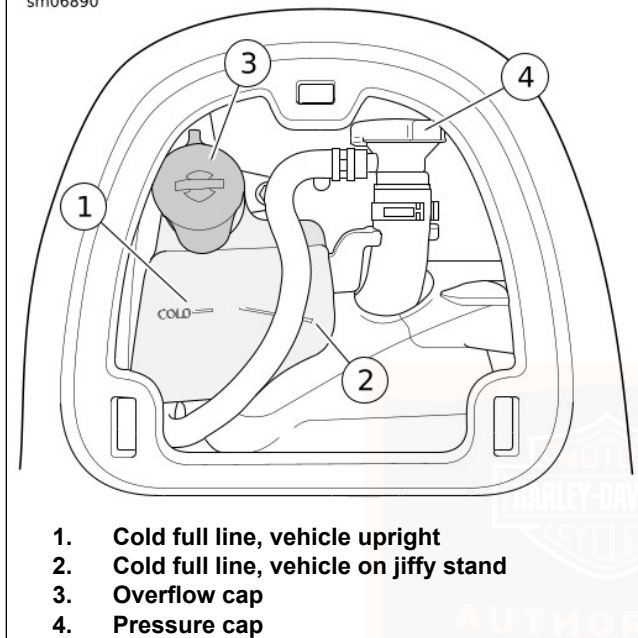

Figure 74. Coolant Level
See Figure 74. The coolant bottle has two lines. Use the angled line (2) when the motorcycle is leaning on the jiffy stand.
2. See Figure 74. Check that coolant level in coolant bottle is at or slightly above the "COLD" line (1).